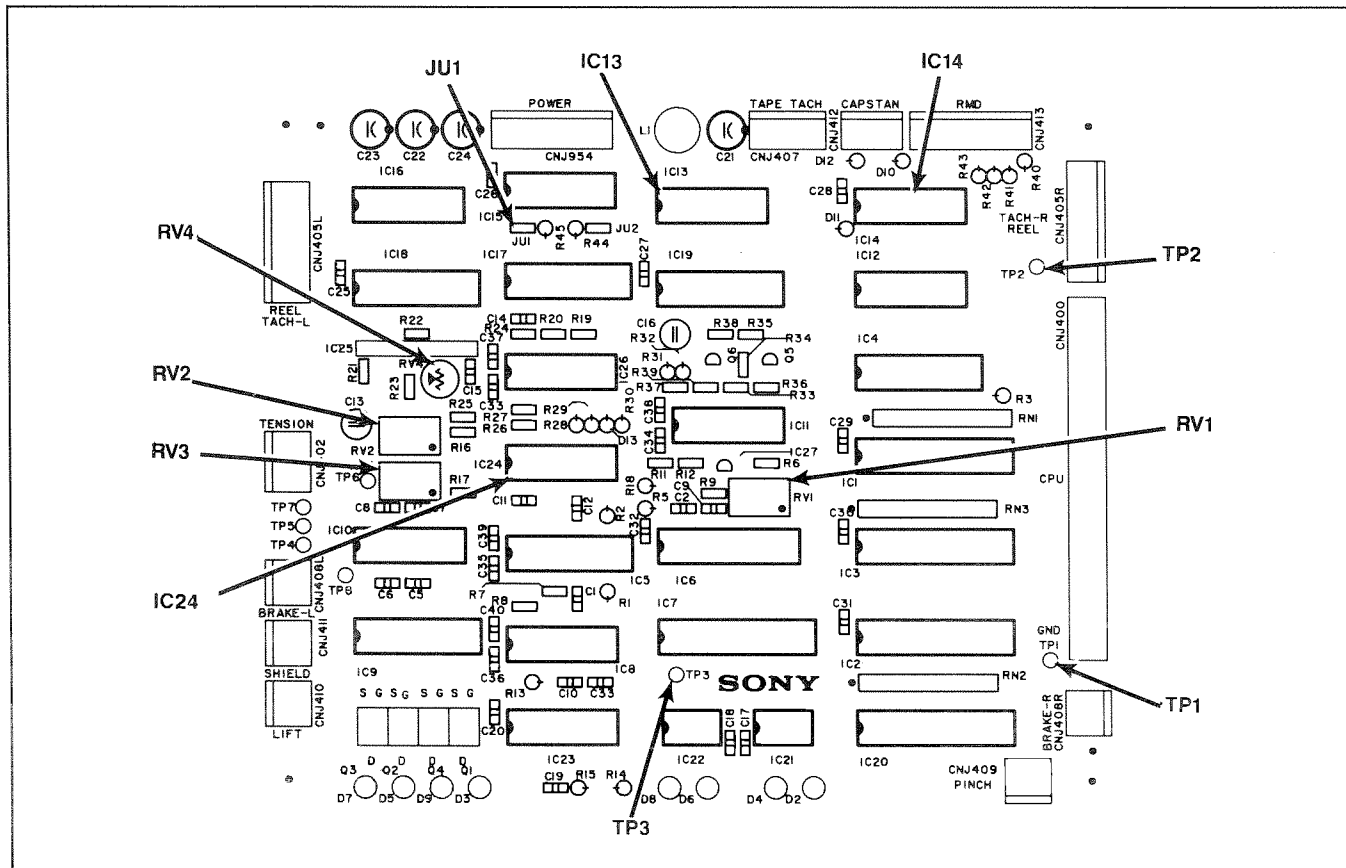

Figure 6-15. TIB PC Board
- STEP 4** Probe IC13 pin 8 with the positive lead of the oscilloscope. (See Figure 6-15.) This is the TTSA signal. Set the oscilloscope uncalibrated sweep so that one cycle of the waveform fills the entire screen.
**STEP 6** Probe IC13 pin 10 with the positive lead of the oscilloscope. (See Figure 6-15.) This is the TTSB signal. Set the oscilloscope un-
- STEP 12** Probe IC13 pin 6 with the positive lead of the oscilloscope. (See Figure 6-15.) This is the RTSA signal of the take-up motor tachometer. Set the oscilloscope uncalibrated sweep so that one cycle of the waveform fills the entire screen.
- STEP 14** Probe IC13 pin 12 with the positive lead of the oscilloscope. (See Figure 6-15.) This is the RTSB signal of the take-up motor tachometer. Set the oscilloscope uncalibrated sweep so that one cycle of the waveform fills the entire screen.
**STEP 3** Using a digital voltmeter, probe TPA on the HES board. Ground voltmeter at TP2 on TIB (signal ground). (See Figure 6-15.) Turn the power switch ON.